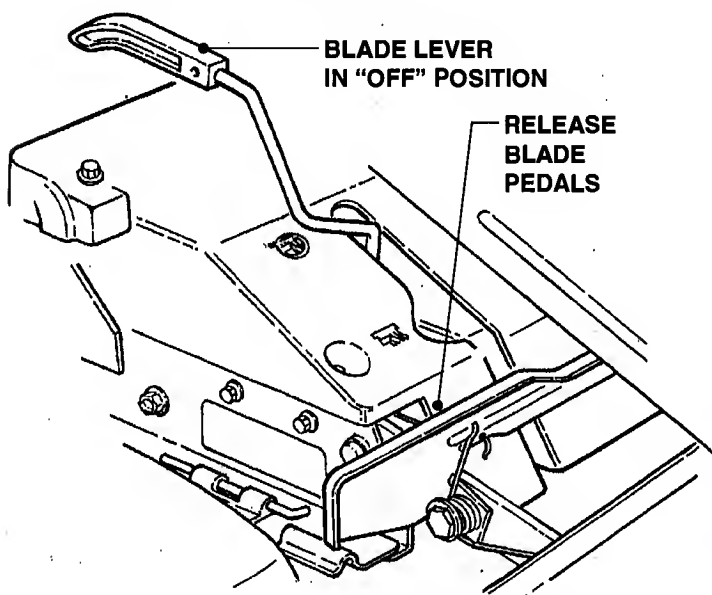
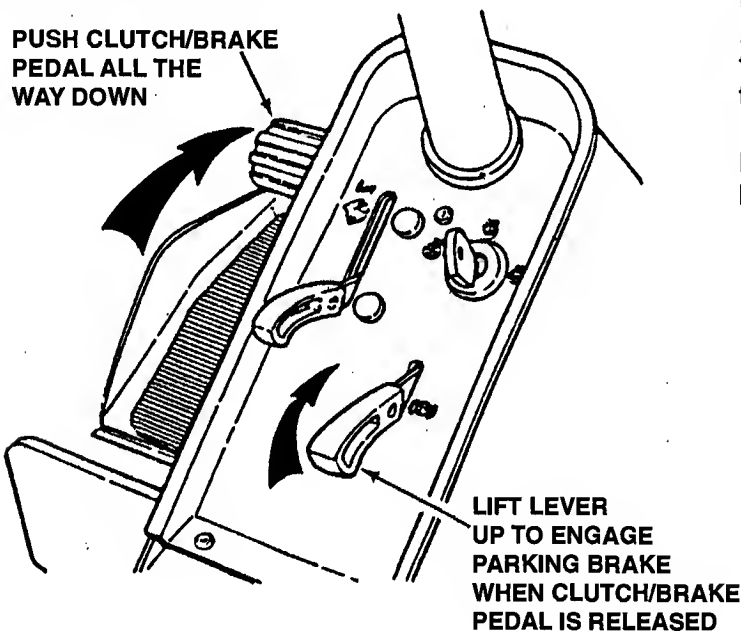

FIGURE 2.4
FIGURE 2.8
2. Make certain the Blade Lever is in the "OFF" position. See Figure 2.4.
**IMPORTANT:** When the ignition key is turned to "RUN", and the recoil handle is pulled, the engine will turn over, but will not start unless the Clutch/Brake Pedal is pressed all the way down with Parking Brake engaged (See Figure 2.8) and the Blade Lever is in the "OFF" position (Refer to Figure 2.4). Start engine as follows:
1. Move transmission shift lever to (N) Neutral position. **DO NOT** start engine with transmission shift lever in a drive position.
2. Make certain the Blade Lever is in the "OFF" position. Refer to Figure 2.4.
3. Press Clutch/Brake Pedal all the way down, lift Parking Brake Lever and release the Clutch/Brake Pedal to set Parking Brake. See Figure 2.8.